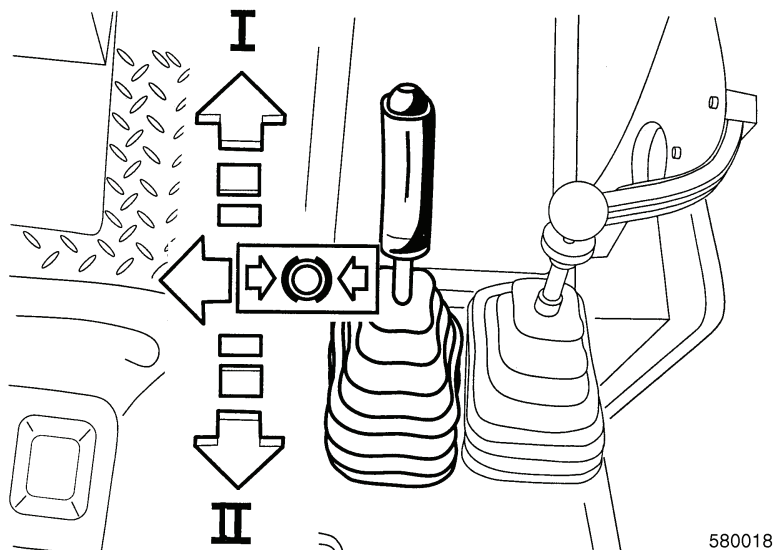

Fig. F9:
- Perform a high pressure test (Fig. F9)